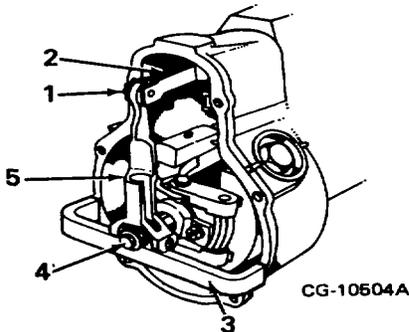

Figure 11. Slider-to-Housing Distance
- 7. Check "slider-to-housing" distance with guide bolt gauge 1 682 329 038 (Figure 11). Notch in gauge must fit in groove on guide bushing when gauge is placed against mating surface of housing (no gasket)